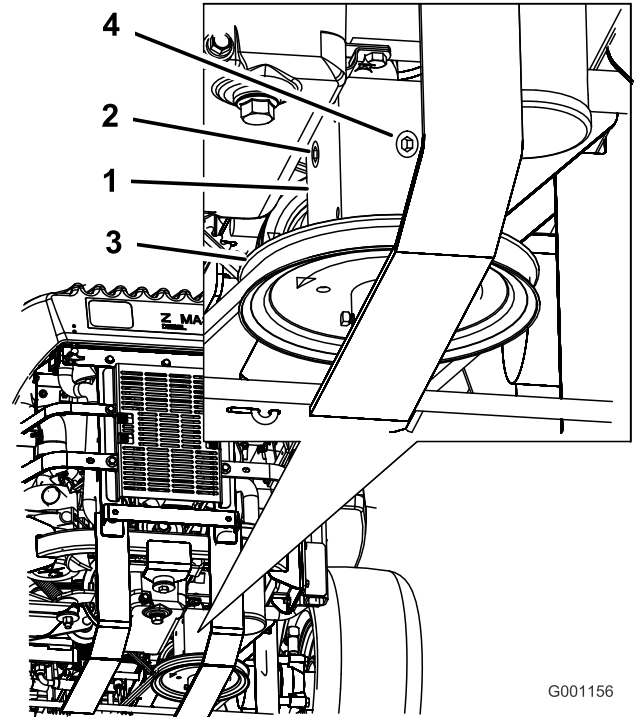

Figure 53
4. Remove the side or rear plug on the gearbox (Figure 53).